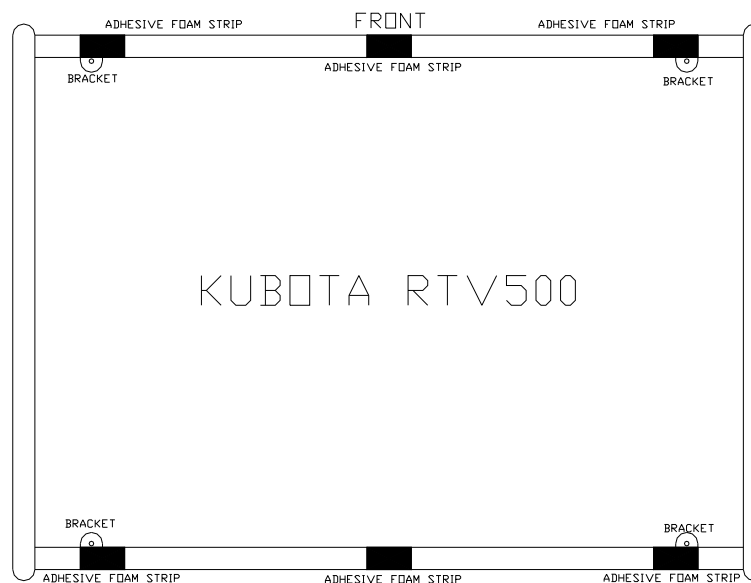

Figure 1
2. Using **Figure 1 (for 500)** and **2 (for 900, 910 or 1100)** Below – place UTV Roof Mounting Brackets around roll cage bar and using a marker, mark the position of the holes needed in the roof for each Roof Mounting bracket.
4. Cut (4) 3" strips of adhesive foam and apply to roof in between holes to prevent roof rattling once mounted. Foam should run in the direction of the roll cage as shown in Figure 1 above.
6. Prior to attaching the roof mount brackets, cut the remaining adhesive foam in half and apply one section to the roof in the center of the roof where roof and each roll cage bar meet as shown in Figures 1 above. If additional tape is required to prevent rattling it can be purchased from any hardware store as window sealant foam tape.